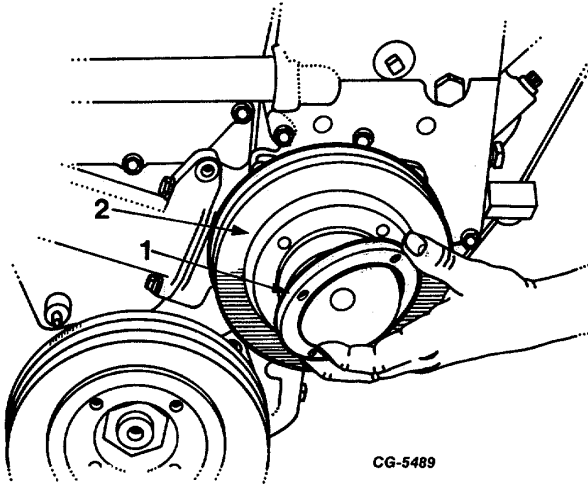

Fig. 24 Water Pump Pulley Removal
17. Remove water pump pulleys by removing four mounting bolts, then slide the front pulley, the spacer and the rear pulley off the hub (Figure 24).